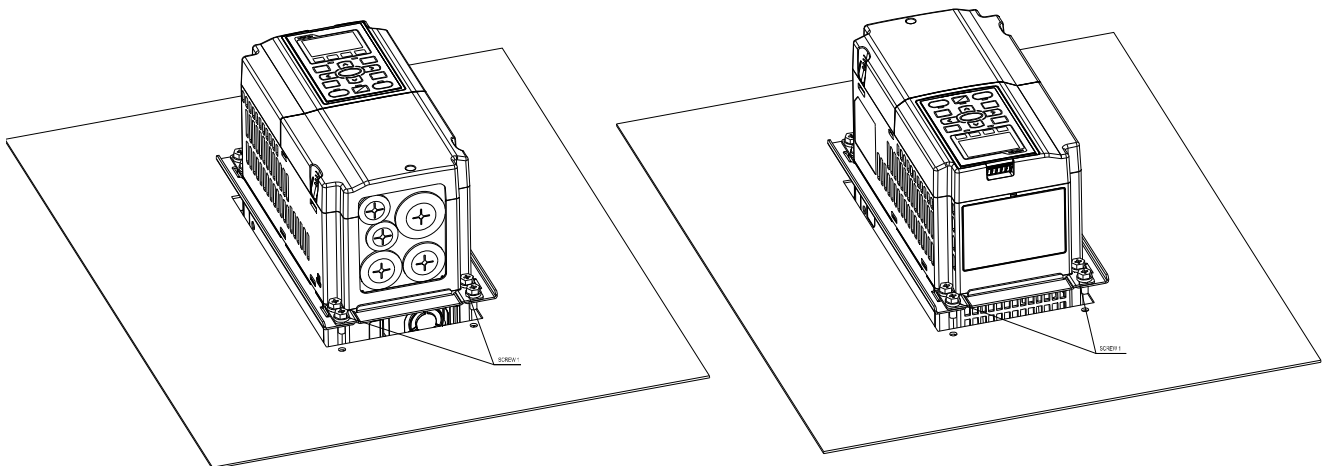

Figure 3
3. Plate installation, place 4 of the screw \*4 (M6) through accessory 2 & 3 and the plate then fasten the screws. Screw torque: 25~30 kg-cm / [21.7~26 lb-in.] / [2.5~2.9 Nm] (figure 3)